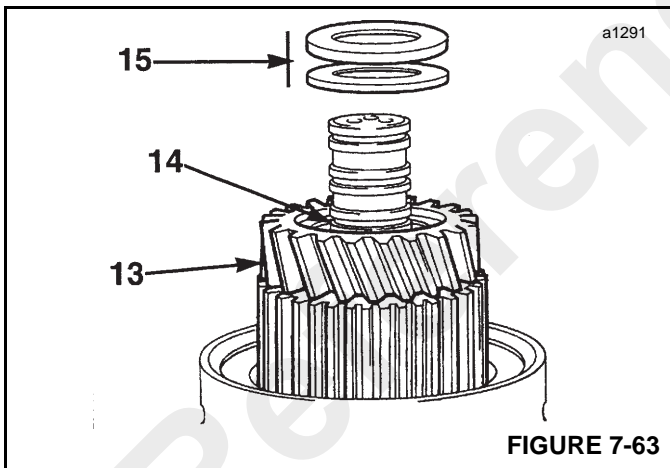

FIGURE 7-63
13. Install gear and splined hub assembly (13, Figure 7-63).
14. Install taper roller bearing (14).
15. Install plastic type washer and thrust washer (15).